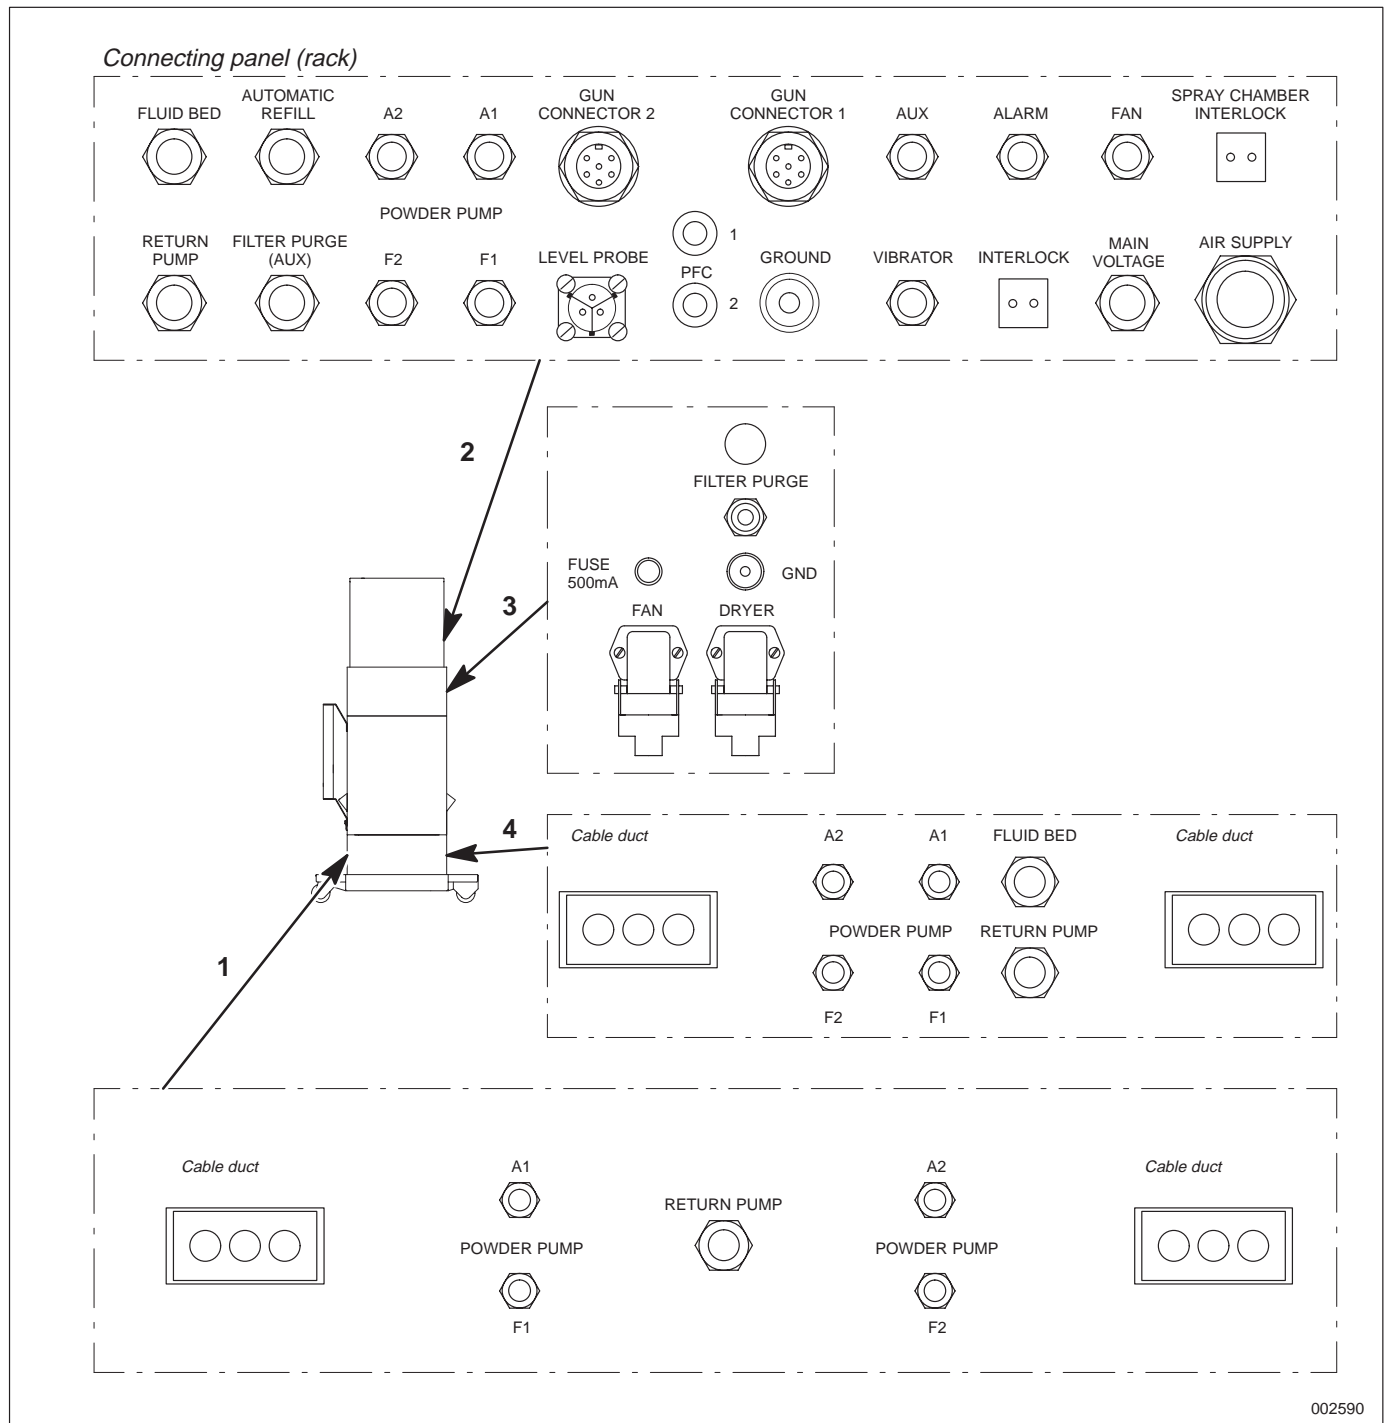

Fig. 10
NOTE: Refer to Fig. 10 for a detailed illustration of the connecting panels.
1. Connect cable coater to the customer's power supply with the power cord (*MAIN VOLTAGE*, connecting panel 2, Fig. 10).
NOTE: The ground wire in the power cord is usually not sufficient for good grounding. The system should be independently connected to the best ground connection. Do this by laying a cable with a large cross-section from the terminal screw *GND* (connecting panel 3, Fig. 10) to good earth, e.g. a water pipe.
3. Connect *INTERLOCK* (connecting panel 2, Fig. 10). *INTERLOCK* is a potential-free connection that is used for coupling the system function with Start/Stop of the cable production line, for a PLC link or for an external control unit.
2. Link air dryer and *AIR SUPPLY* (connecting panel 2, Fig. 10).